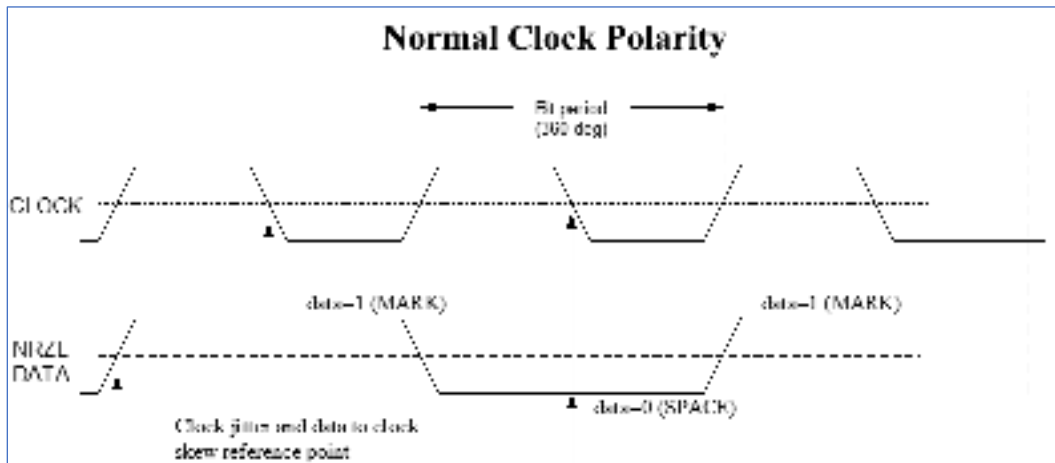

Figure 138: Normal Clock Polarity Diagram
- **Clock Polarity** – In a synchronous system, incoming data changes on one edge of the clock signal and is sampled by the RA on the other edge, as shown in Figure 138. If this is incorrect, it can result in unreliable data input. Clock polarity ensures the data is sampled on the proper clock edge.